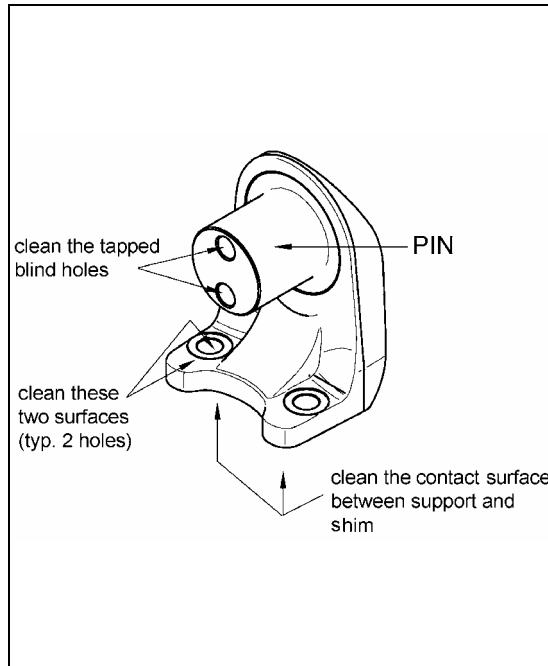

FIGURE 4: SUPPORT CLEANING (typ. 3 supports)
7. Using brake cleaner, thoroughly clean the 3 supports contact surfaces to remove all trace of anti-seize compound. Clean the contact surfaces between support, shim and structure. On supports (see figure 4), clean the contact surface of the bolt head, the passing holes and use brush #684901 to clean the tapped blind holes. Use brake cleaner and a clean clothe to dry.